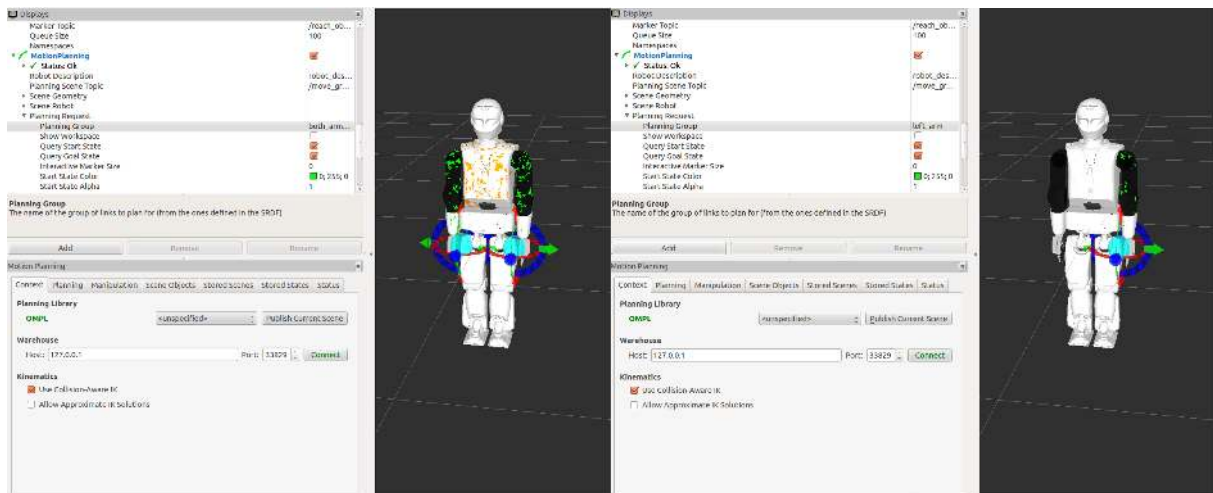

Figure 79: *MoveIt!* graphical interface in RViz. REEM-C with the planning group *both_arms* (left) and with the planning group *left_arm* (right).
2. *MoveIt!* uses planning groups to generate solutions for different kinematic chains. Figure 79 shows that by selecting different planning groups, the GUI shows only the relevant “flying end-effectors”.